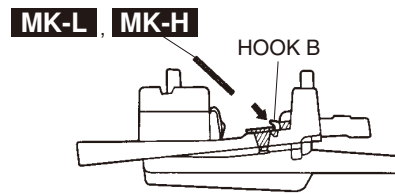

Fig. 16
- 21-5. Install the MK-L and MK-H circuit boards in the assembly so that the hooks B hold it. (Fig. 16)